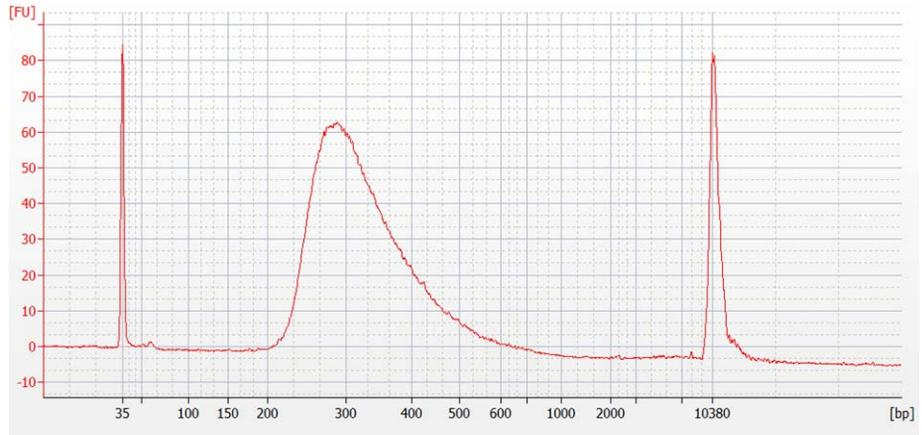

Figure 10 Analysis of indexed DNA sample using a High Sensitivity DNA Bioanalyzer assay.
- 4 Verify the results. Check that the electropherogram shows a distribution with a fragment size peak between approximately 250 to 300 bp. A sample electropherogram is shown in Figure 10.